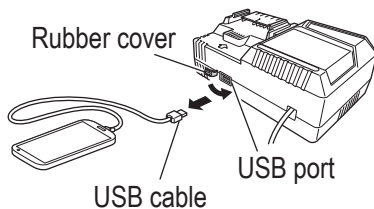

Fig. 26
- Unplug the power cord from the electrical outlet. (Fig. 26)